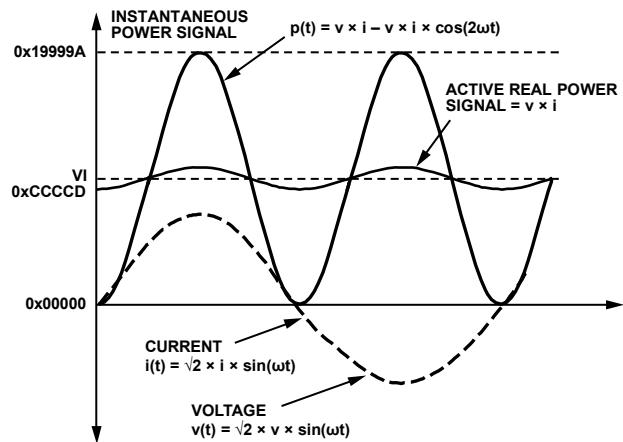

Figure 42. Active Power Calculation
Note that the active power is equal to the dc component of the instantaneous power signal $p(t)$ in Equation 9, that is, VI . This is the relationship used to calculate active power in the ADE5166/ADE5169/ADE5566/ADE5569. The instantaneous power signal $p(t)$ is generated by multiplying the current and voltage signals. The dc component of the instantaneous power signal is then extracted by LPF2 (low-pass filter) to obtain the active power information. This process is illustrated in Figure 42.
The ADE5166/ADE5169/ADE5566/ADE5569 also incorporate an active power offset register (WATTOS[15:0]). It is a signed, two's complement, 16-bit register that can be used to remove offsets in the active power calculation (see Figure 42). An offset can exist in the power calculation due to crosstalk between channels on the PCB or in the IC itself. The offset calibration allows the contents of the active power register to be maintained at 0 when no power is being consumed.
As mentioned in the Active Energy Calculation section, the discrete time sample period (T) for the accumulation register is 1.22 μ s (5/MLCK). With full-scale sinusoidal signals on the analog inputs and the WGAIN register set to 0x000, the average word value from each LPF2 is 0xCCCCD (see Figure 42). The maximum positive value that can be stored in the internal 49-bit register is 2^{48} (or 0xFFFF,FFFF,FFFF) before it overflows. The integration time under these conditions when $WDIV = 0$ is calculated in the following equation: